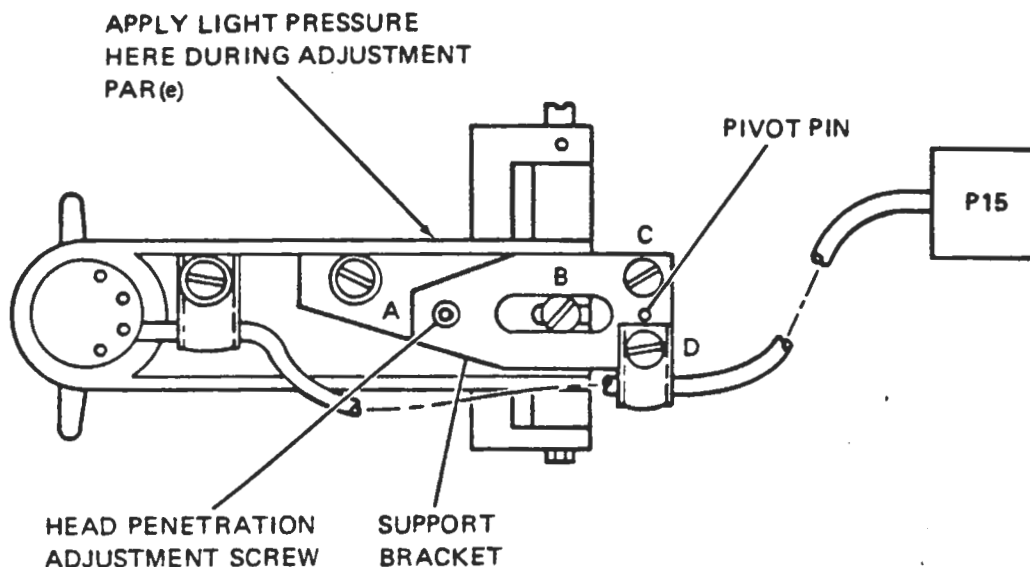

Figure 6-12 Positioner Track and Azimuth Adjustment (Side 1)
- e. Slacken screws A & B (Figure 6-12) holding head Side 1 carriage to support bracket.
- n. When the time intervals are within 20 μ sec, tighten two screws C and D. (Figure 6-12)